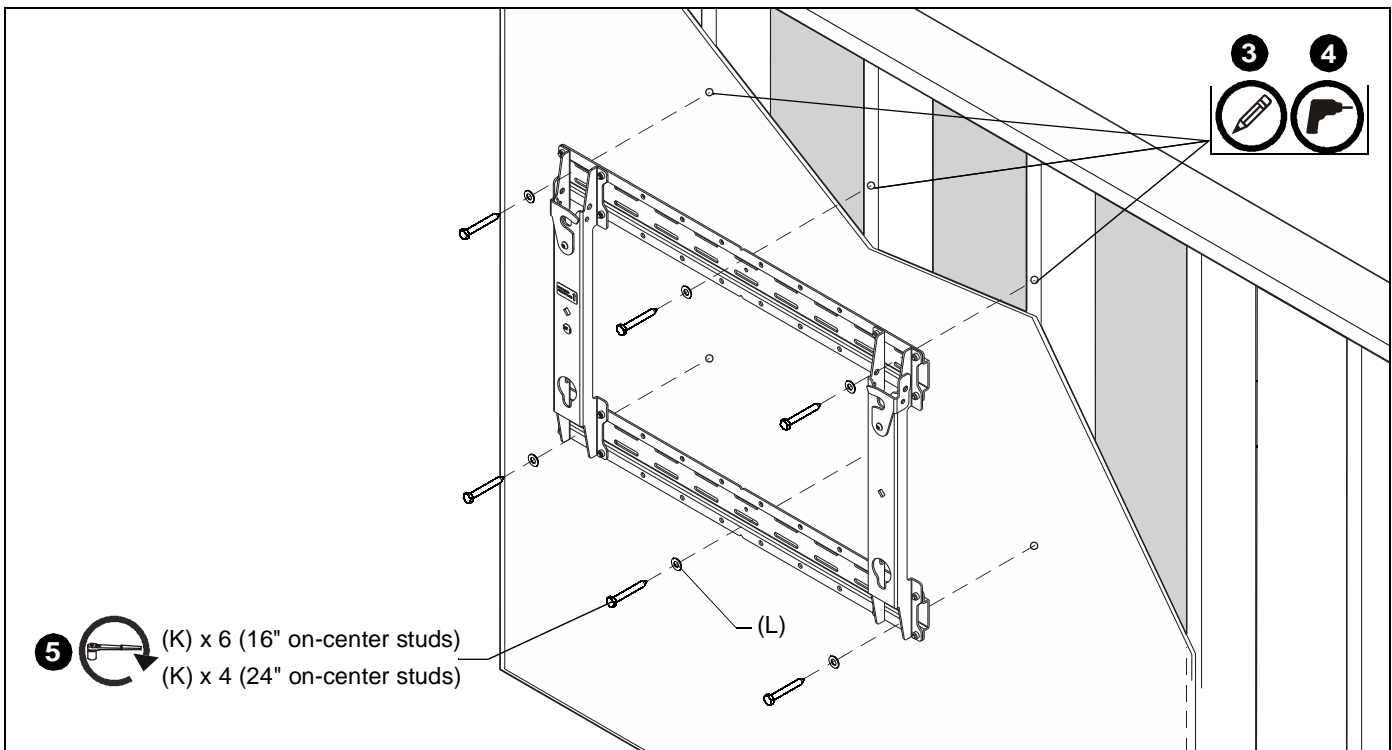

Figure 2
3. Using a pencil, or similar marking tool, mark the location of six mounting holes (or four mounting holes for 24" on-center studs) in horizontal brackets onto surface. (See Figure 2)
5. Secure mount to studs using six 5/16 x 2-1/2" lag screws (K) and six 5/16" (L) flat washers [or four lag screws and four washers for 24" on-center studs]. (See Figure 2)